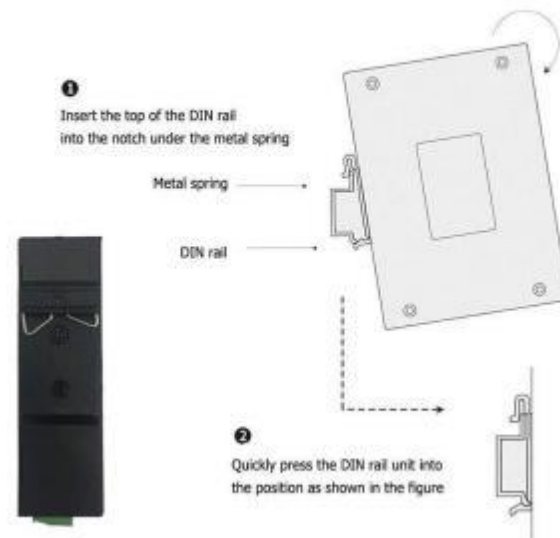

Fig. 6 Install DIN-Rail mounting kit
- ❖ Position the side panel of the device directly in front of the DIN-Rail, making sure that the top of the DIN-Rail clip hooks over the top of the DIN-Rail , as shown in Fig.6.